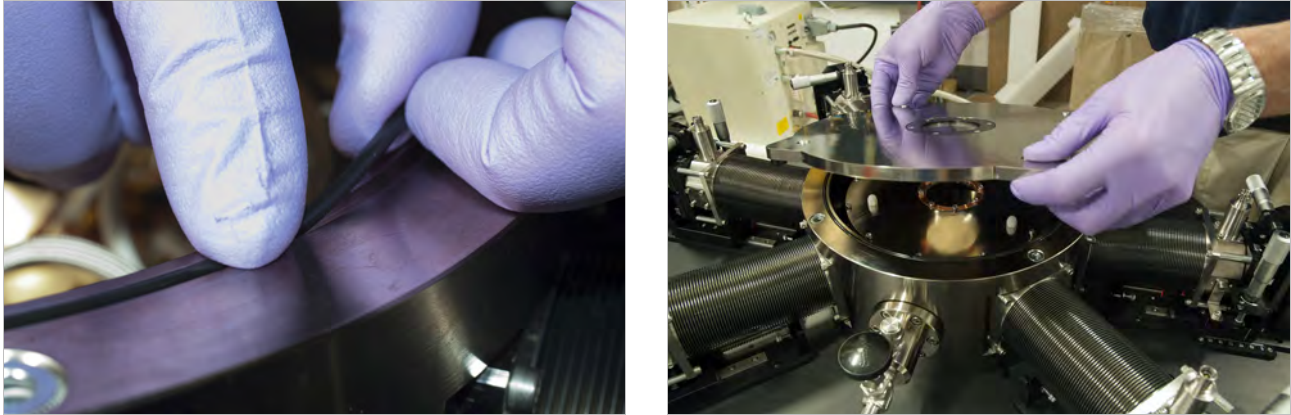

FIGURE 4-8 Left: Placing the o-ring in the chamber groove; Right: Placing the chamber lid onto the o-ring
- Clean the o-ring groove in the vacuum chamber. Clean, inspect and lightly grease the o-ring with vacuum grease and place it in the groove. (FIGURE 4-8). Make sure that the o-ring does not twist as it is being installed.
4. Place the vacuum chamber lid onto the o-ring (FIGURE 4-8).